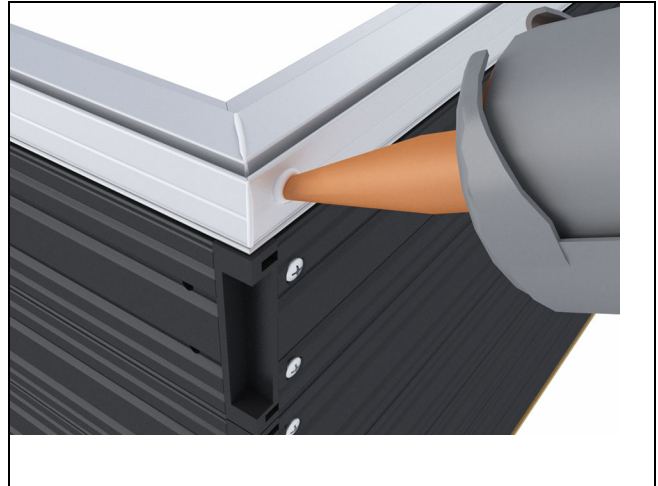

Figure 104
10. Inject both frame cladding corner key holes with sealant until squeeze out occurs. Fasten using #8 x 1 1/2" screw into each corner key. See figure 104.